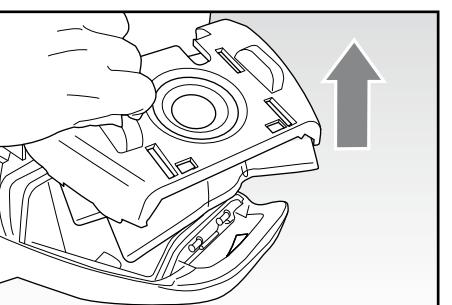

Fig. 8
- Take out the bag support from the compartment (G), (FIG. 8).